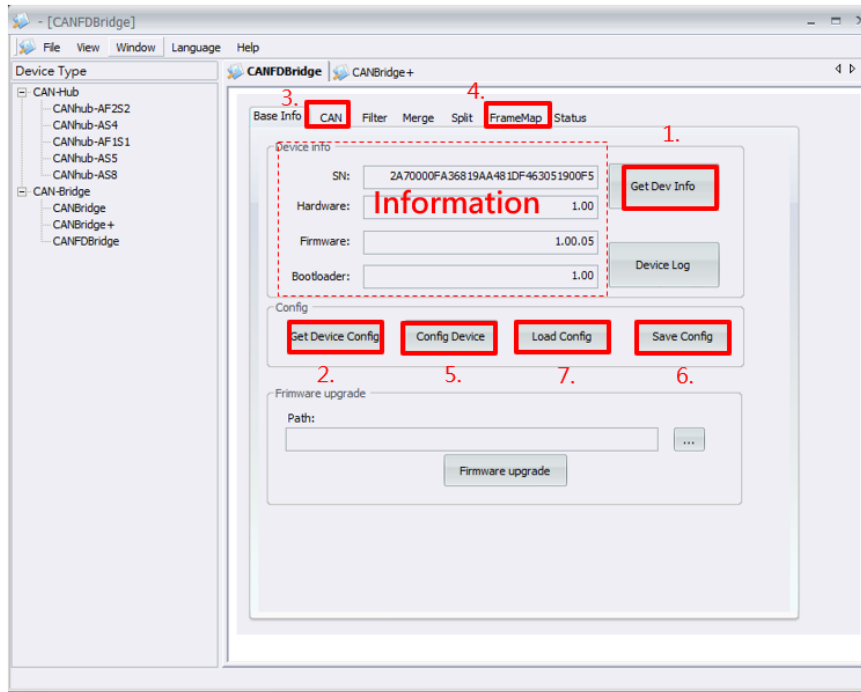

Figure F-11 CANFDBridge Software Window
3. For initial setup, refer to the steps below and Figure F-11.